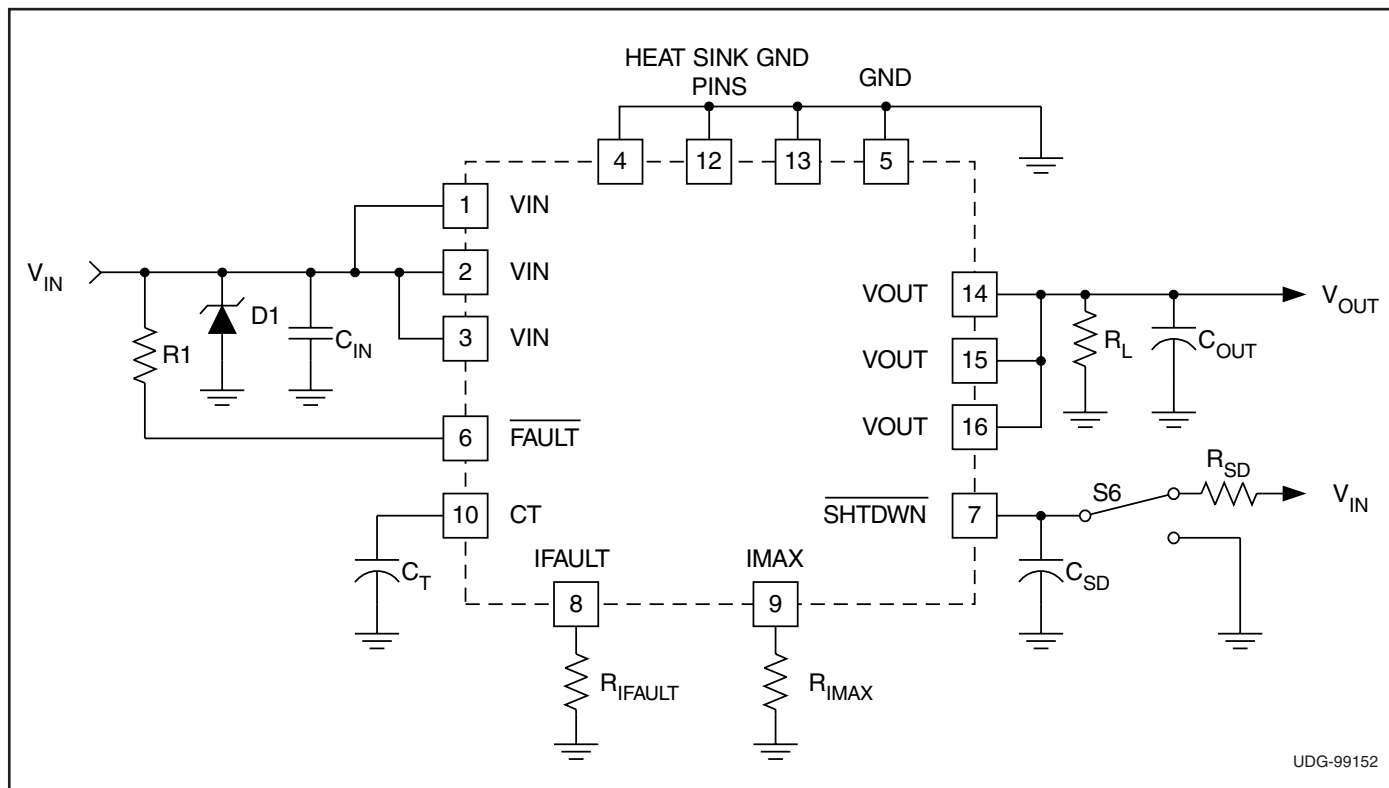

Figure 1. Evaluation circuit.
- Decoupling  $V_{IN}$  with a capacitor,  $C_{IN}$  (refer to Fig. 1), located close to the  $V_{IN}$  pin. This capacitor is typically less than  $1\mu F$  to limit the inrush current.
- Clamping the voltage at  $V_{IN}$  below 6V with a Zener diode, D1 (refer to Fig. 1), located close to the  $V_{IN}$  pin.